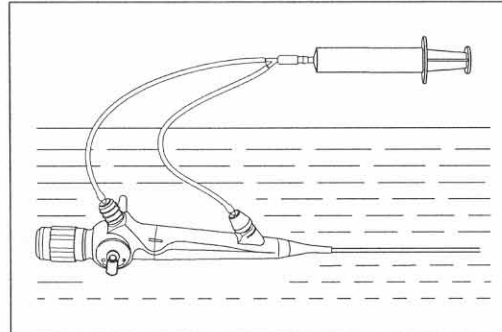

Figure 7.10
3. Withdraw the plunger of the syringe to fill the Suction Cleaning Adapter and the Channel with detergent solution. (See Figure 7.10)